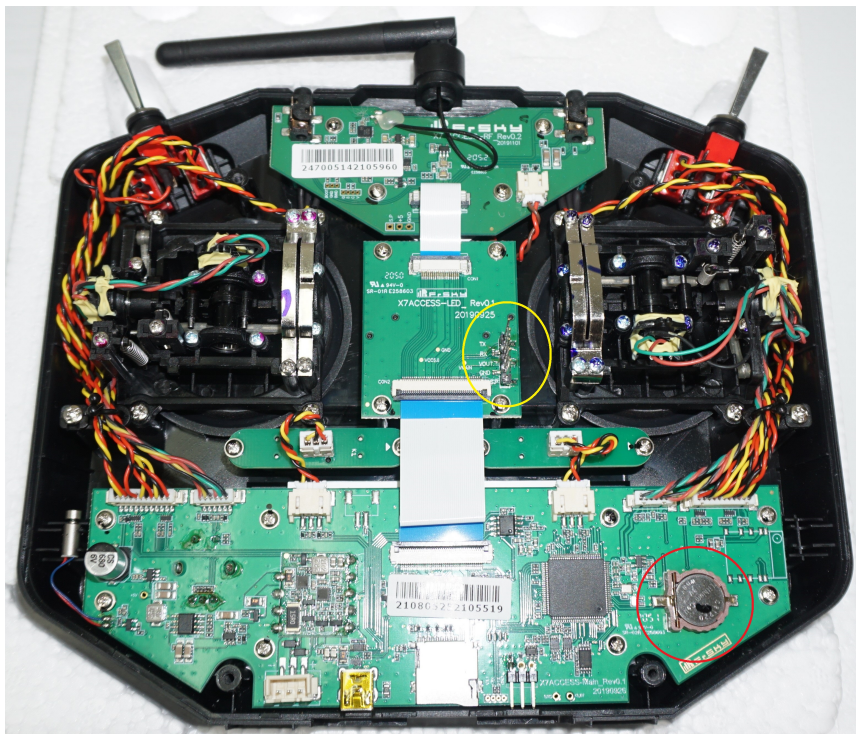

Figure 76: RCU RTC Location
8. Locate the RTC battery(circled red in Figure 76) and remove it.
10. Carefully put the two case halves together. Verify the module bay pins (circled yellow in Figure 76) slide through the slot (Figure 19).